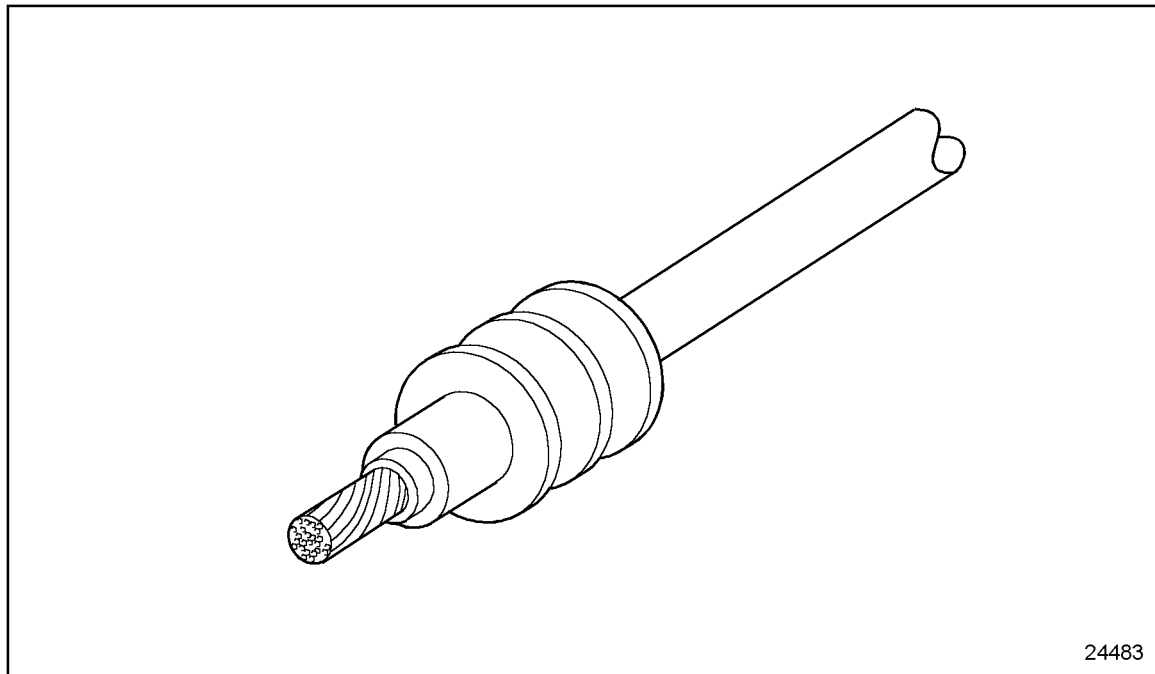

Figure 3-39 Seal Positioning
1. Position a seal on each terminal lead so 5.0 0.5 mm (.20 .02 in.) conductor and 1.0 0.1 mm (.05 .005 in.) cable protrudes past the seal after being stripped (see Figure 3-39).